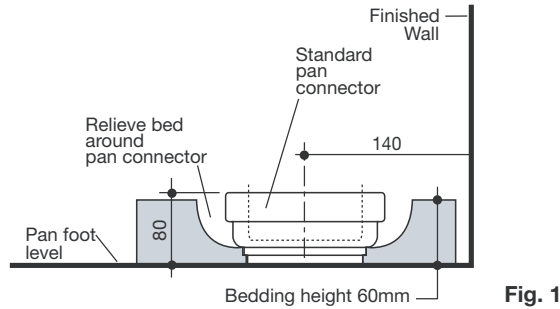

Fig. 1
The 'S' and 'P'-Trap pan installations are detailed in **Fig 1 & 2**. The recommended set-out for 'S'-Trap installations is 140mm from the finished wall. **It is important to position the pan collar 80mm Max. from the foot level of pan as detailed in Fig. 1.**
- 3- Prepare bedding sand cement mixture 3:1 to depth of 60mm as detailed in **Fig.1**.